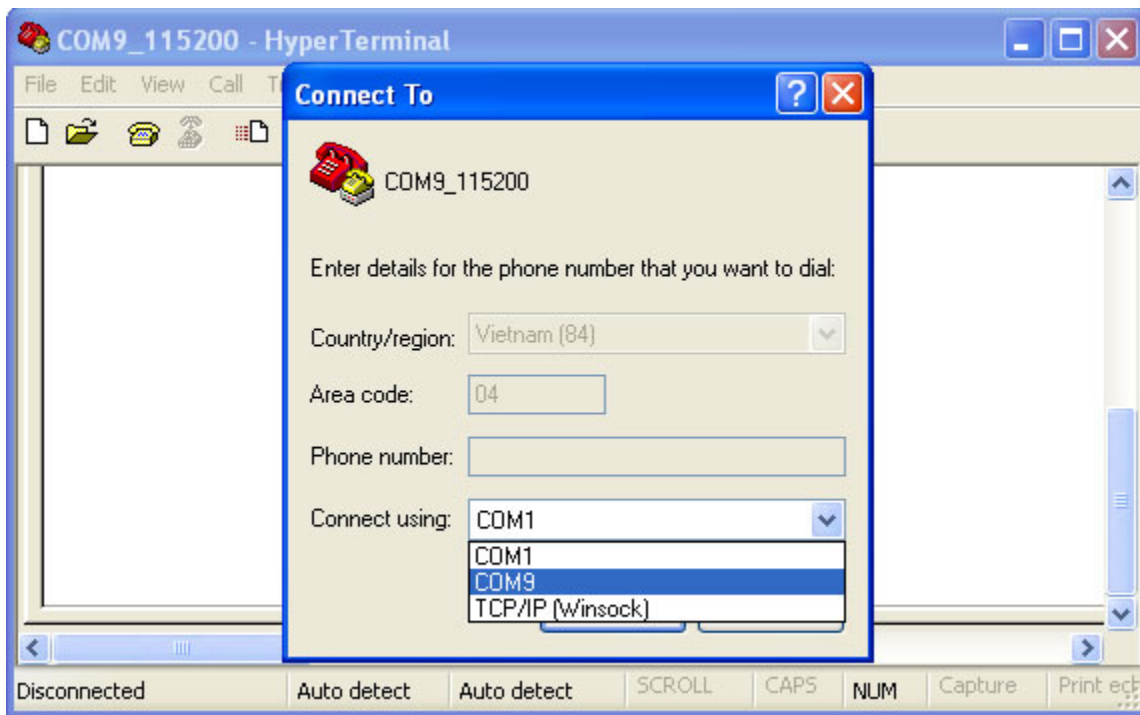

Figure C-6. Connect Using COM9
5. The window appears as shown in the Figure C-6 . Select the COM port identical to the one that shows up on the device manager.